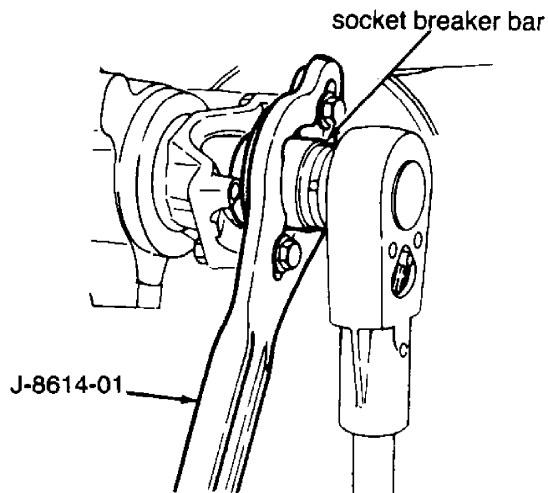
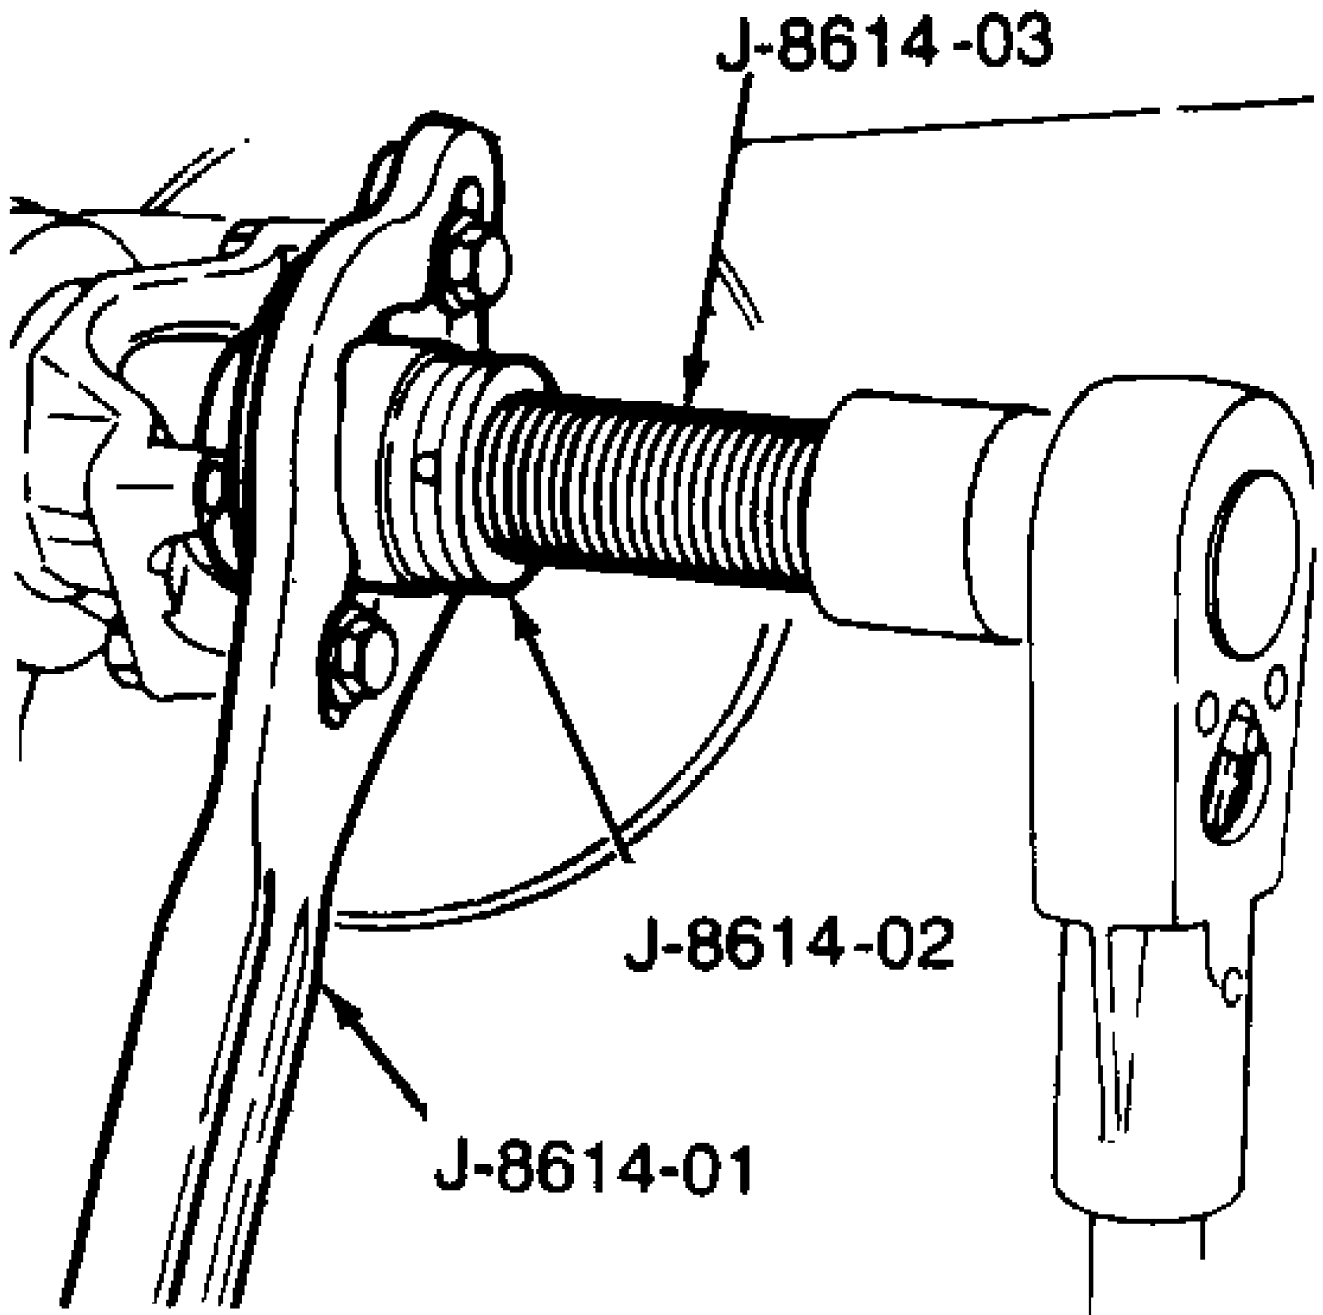
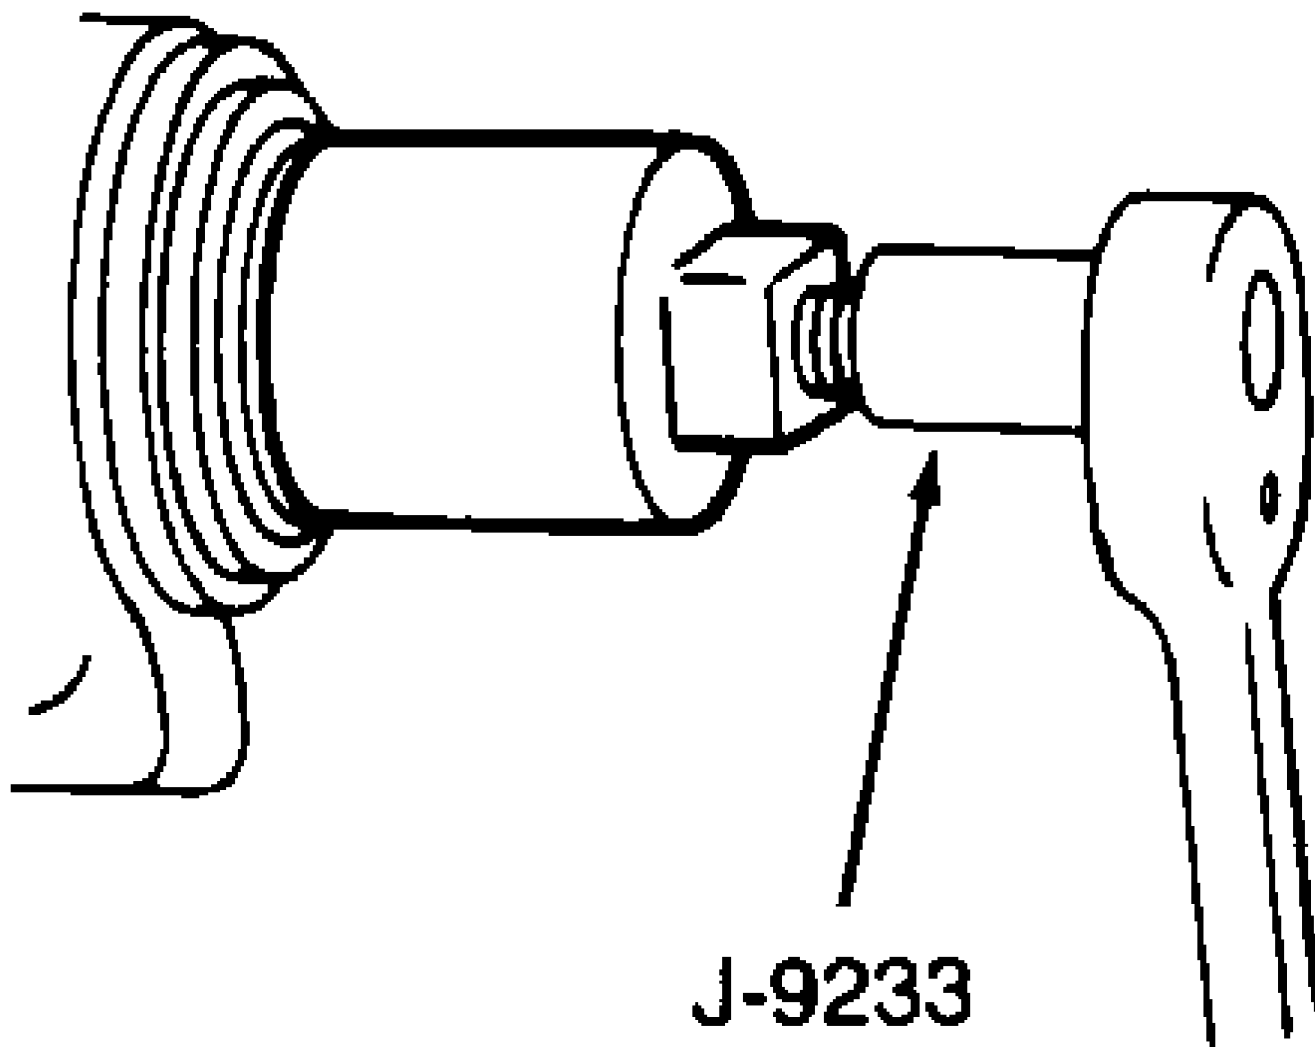

Fig. 3: Removing Pinion Nut & Washer
Fig. 4: Removing Front Drive Axle Yoke
Fig. 5: Removing Pinion Seal
2) Using a breaker bar and Pinion Nut Remover (8614-01), remove pinion nut and washer. See Fig. 3. Using Yoke Pullers (8614-01), (8614-02) and (8614-03), remove yoke. See Fig. 4. Using Pinion Seal Remover (J-9233 or J-7583), remove pinion seal from front differential housing. See Fig. 5.